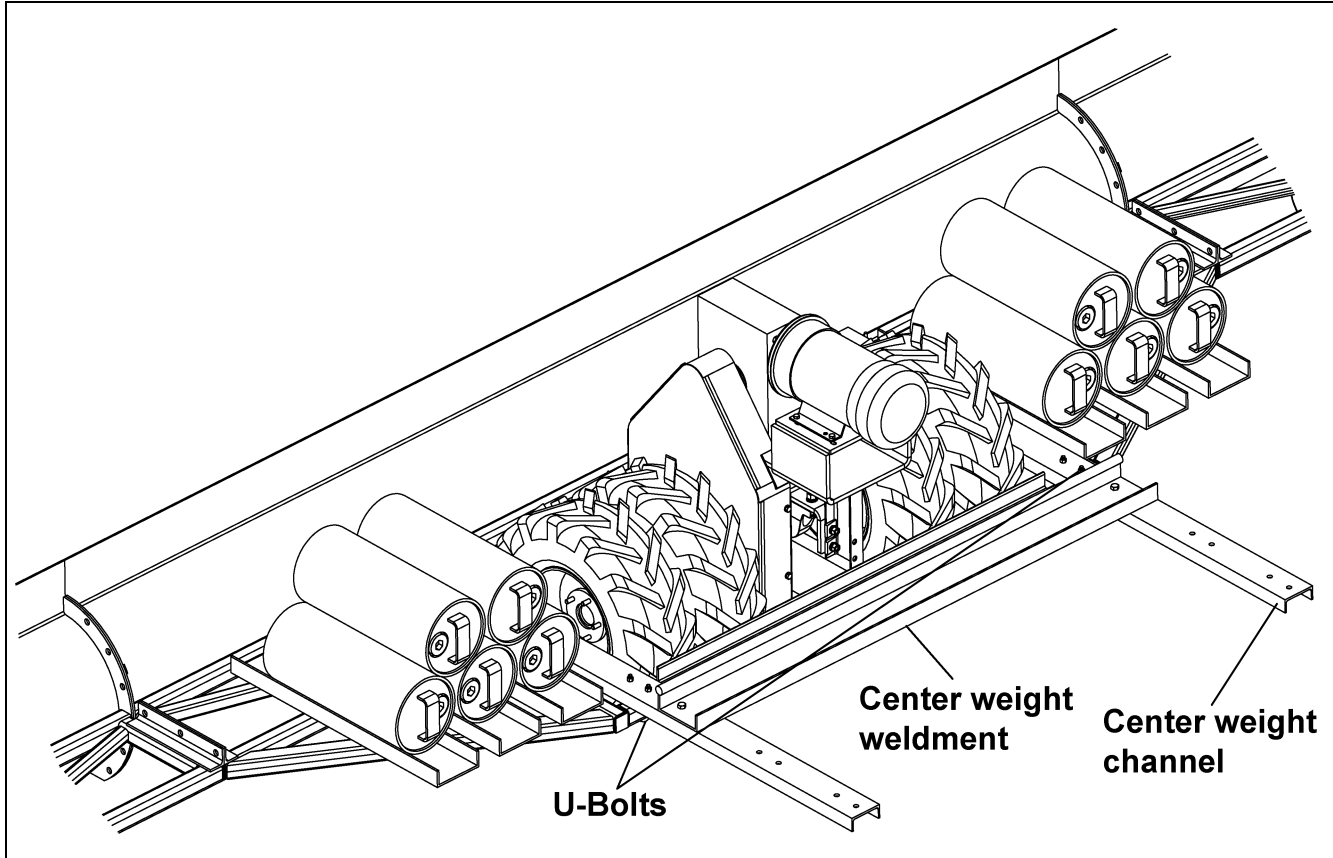

Figure 5T
- B. Attach the center weight weldments to the adjustable center weight channel using eight (8)  $\frac{1}{2}$ " x  $1\frac{1}{4}$ " bolts, split lock washers and hex nuts. The adjustable center weight has three (3) sets of holes for the center weight weldments to adjust the weights. (See Figure 5T.)